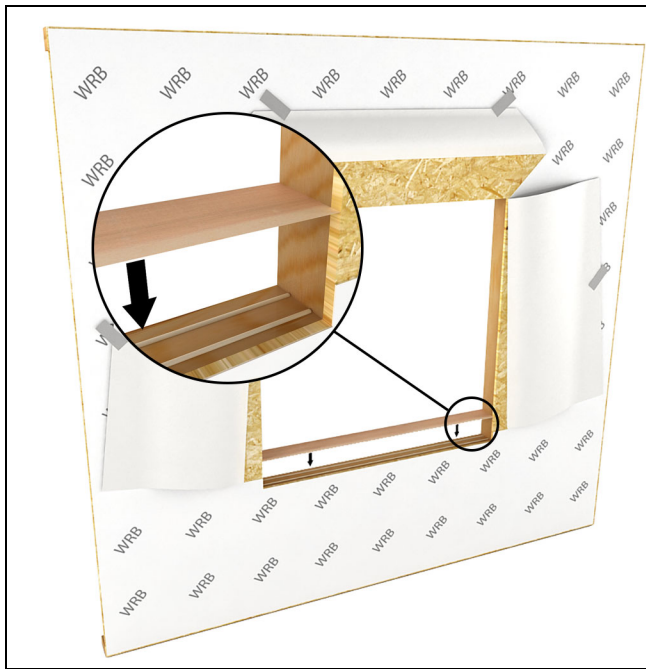

Figure 4
4. Optional: Add a continuous "Sill Wedge" out of cedar siding or similar water resistant material to create a positive drainage slope. Glue it to the RO sill with two beads of adhesive and screw in place. See Figure 4.